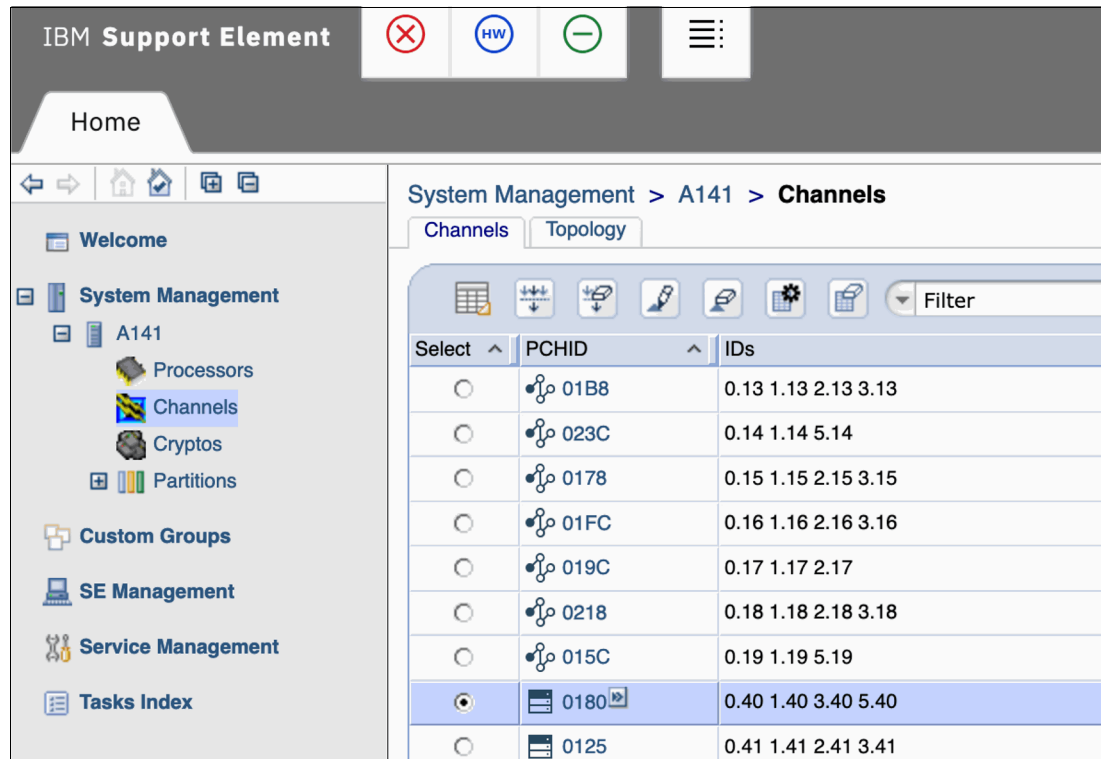

Figure 21 IBM Support Element view
1. Open the Channels listing (Figure 21).